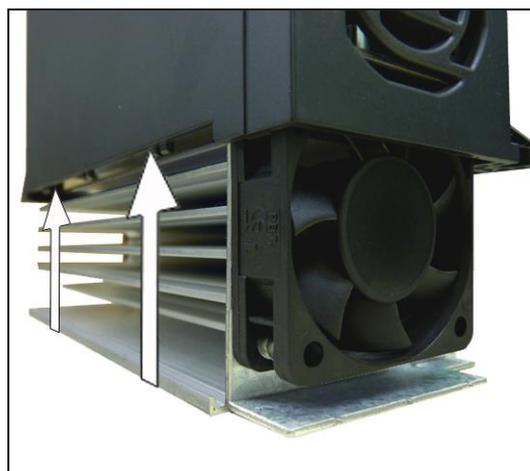

Fig. 3.29
15. Separate the inverter's plastic protector from the metal base (Fig. 3.29).